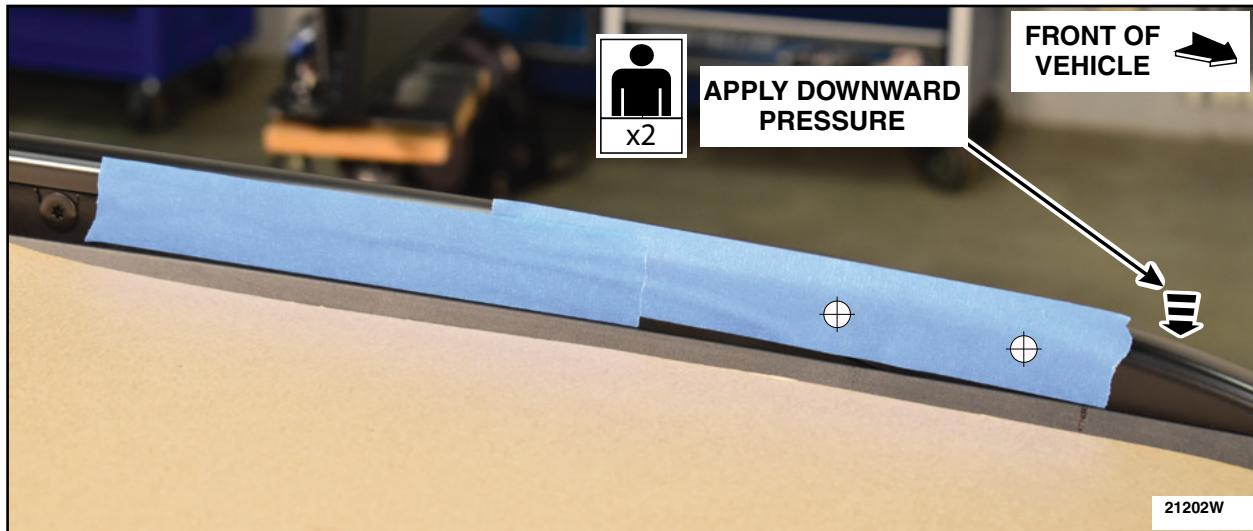

FIGURE 20
9. Having a second person apply downward pressure, drill out both marks. See Figure 20.